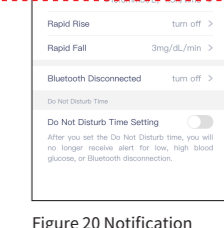

Figure 23 No Device Connected
- When the transmitter and AnytimeWell are unbound, it will show "No device connected". This means the system is available to start the next sensor, as shown in Figure 23.